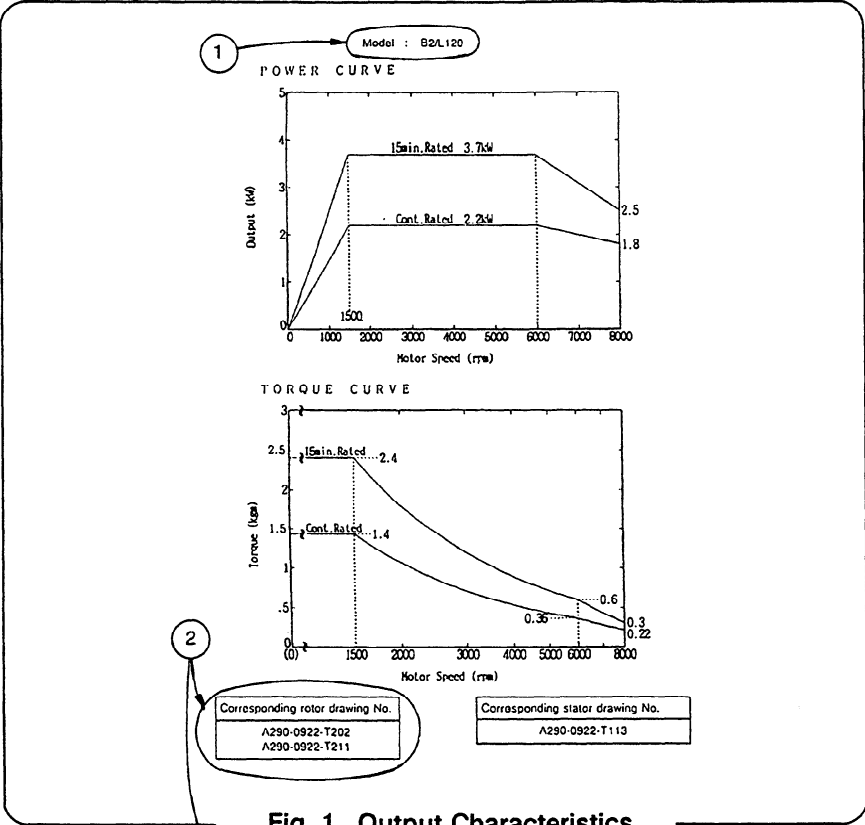
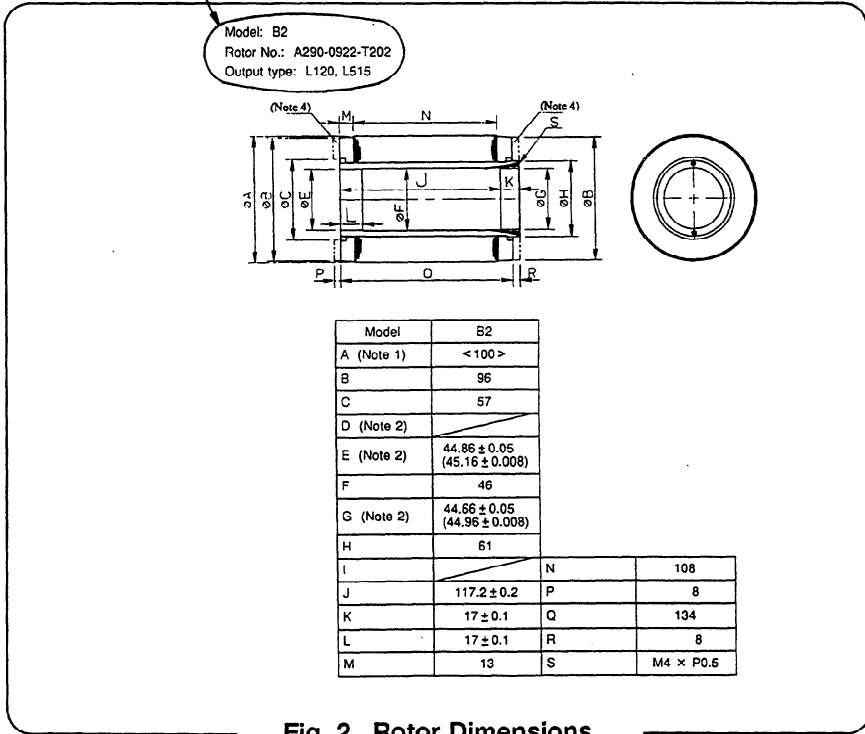

Fig. 1 Output Characteristics
Fig. 2 Rotor Dimensions
- ① Select a desired output characteristic (Fig. 1 ).
Fig. 1 indicates that two types of rotors satisfy the output characteristic. Use the respective drawing numbers (Fig. 2) to determine which type of rotor to use. Select the rotor with a sleeve (A290-0922-T202). The drawing number of the stator is A290-0922-T113.
(Fig. 1, Fig. 2)